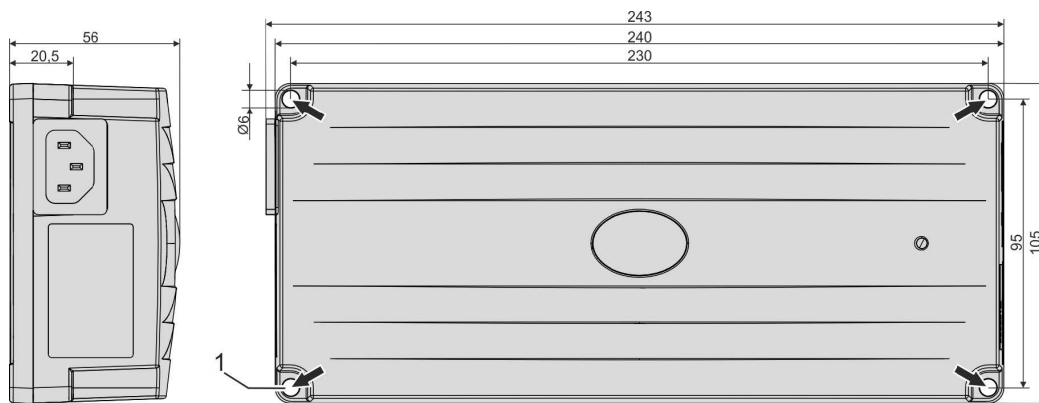

Figure 18 - Connection points
1. Drill holes (4 x diam. 5.5 mm) in the surface as per the spacing shown in Figure 18.
3. Insert the 4 screws into the drilled holes (Figure 18/1) and tighten them alternately in diagonal sequence.